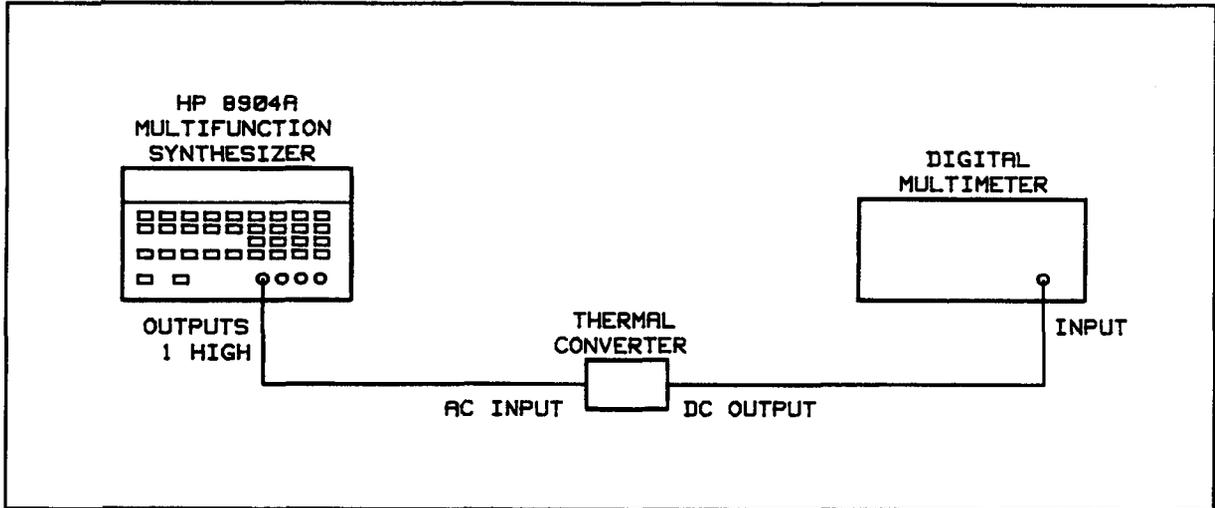

Figure 4-2. AC Amplitude Flatness Performance Test Setup
2. Connect the ac input of the thermal converter to the Multifunction Synthesizer's OUTPUTS 1 HIGH output. Connect the dc output of the thermal converter to the input of the voltmeter. Refer to Figure 4-2.
8. Connect the ac input of the thermal converter to the Multifunction Synthesizer's OUTPUTS 2 HIGH output. Connect the dc output of the thermal converter to the input of the voltmeter. Refer to Figure 4-2.